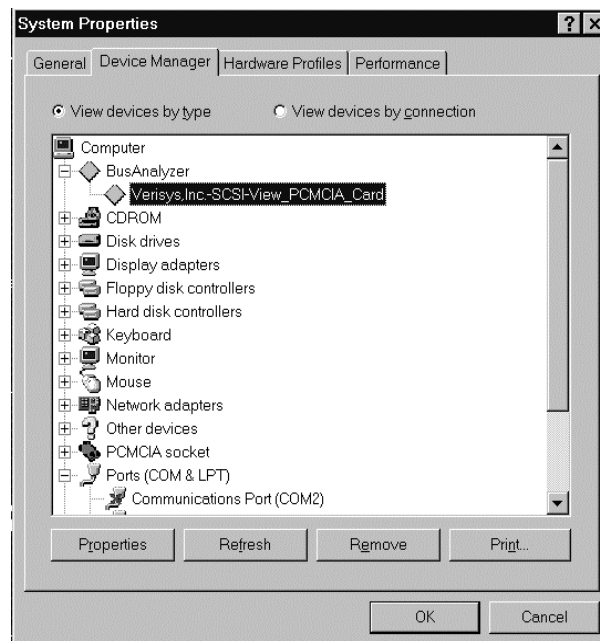

Figure 18
- Double Click on Verisys, Inc.-SCSI-View_PCMCIA_Card.(Figure 18)